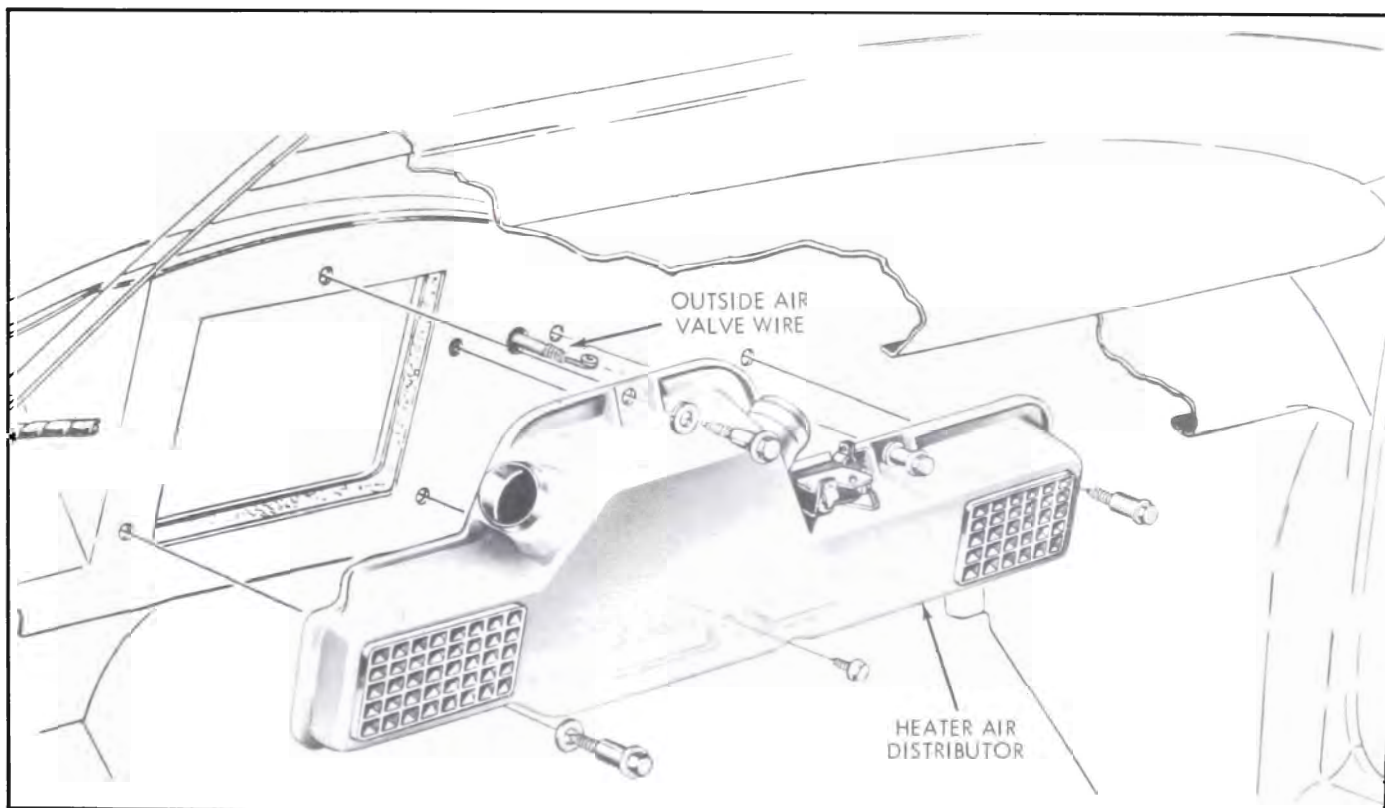

Figure 11-15—Heater Air Distributor Installation
1. Disconnect the two control wires from the lever assembly on distributor. See Figure 11-15.